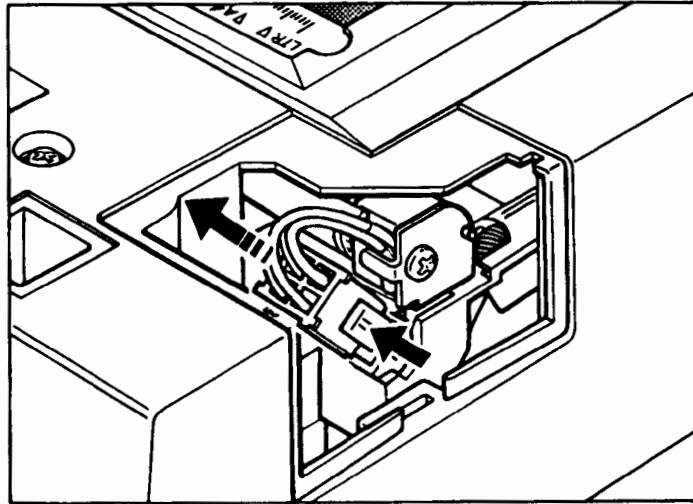

Figure C-10. Unplugging the Lamp Connector
9. Unplug the lamp connector by depressing the side clip and pulling the connector out of the socket. See figure C-10.